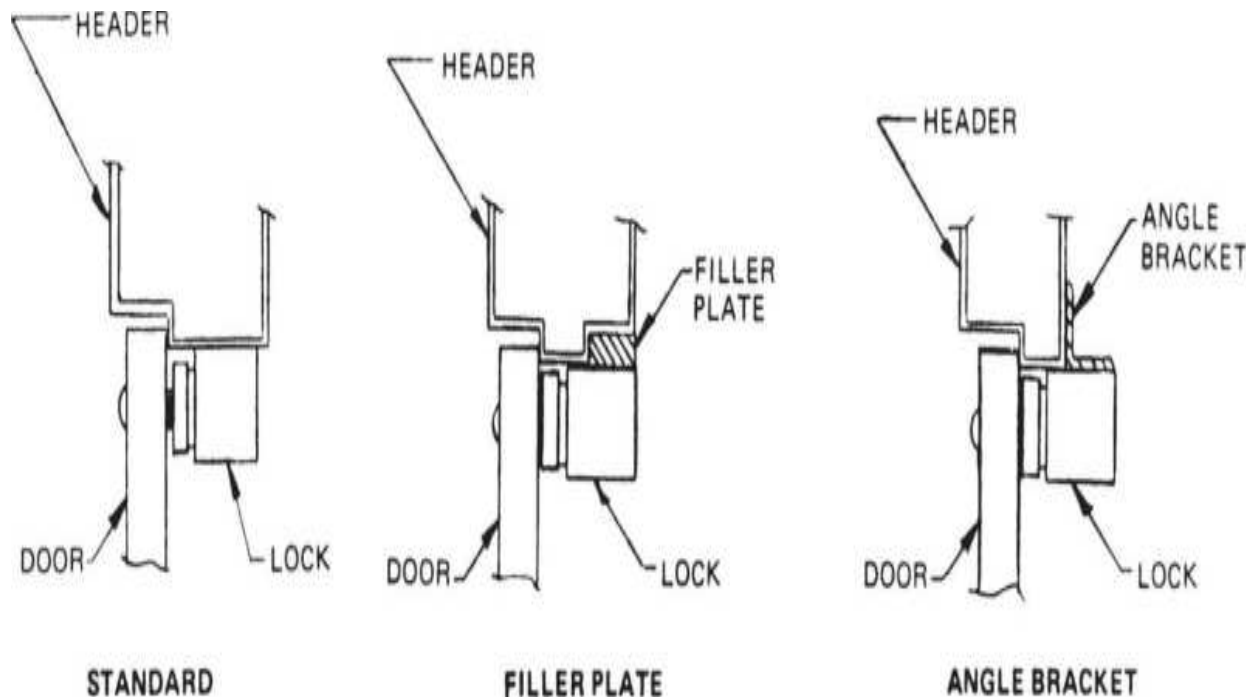

**Figure 19.55** Door frame header determination tells you if a filler plate, angle bracket, or nothing will be required. (*Security Engineering, Inc .*)
**Mounting.** Note the type of door frame header and install the filler plate or angle bracket as required (Fig. 19.55 ).